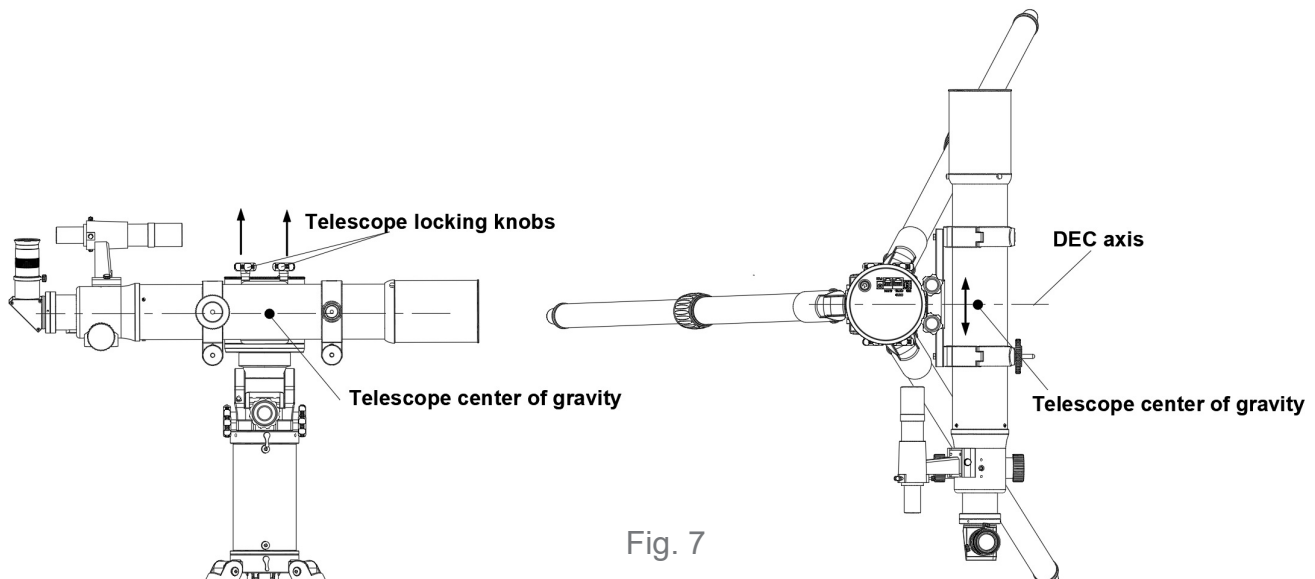

Fig. 7
- * Use the SynScan Pro app to slew the two axes and level the telescope with the telescope locking knobs on the upper side.(Fig.7)
- * Adjust the position of the telescope (by shifting the dovetail in the clamp or by shifting the telescope in the tube rings) to maintain balance of the telescope around the DEC axis(Fig.7~Fig.8)